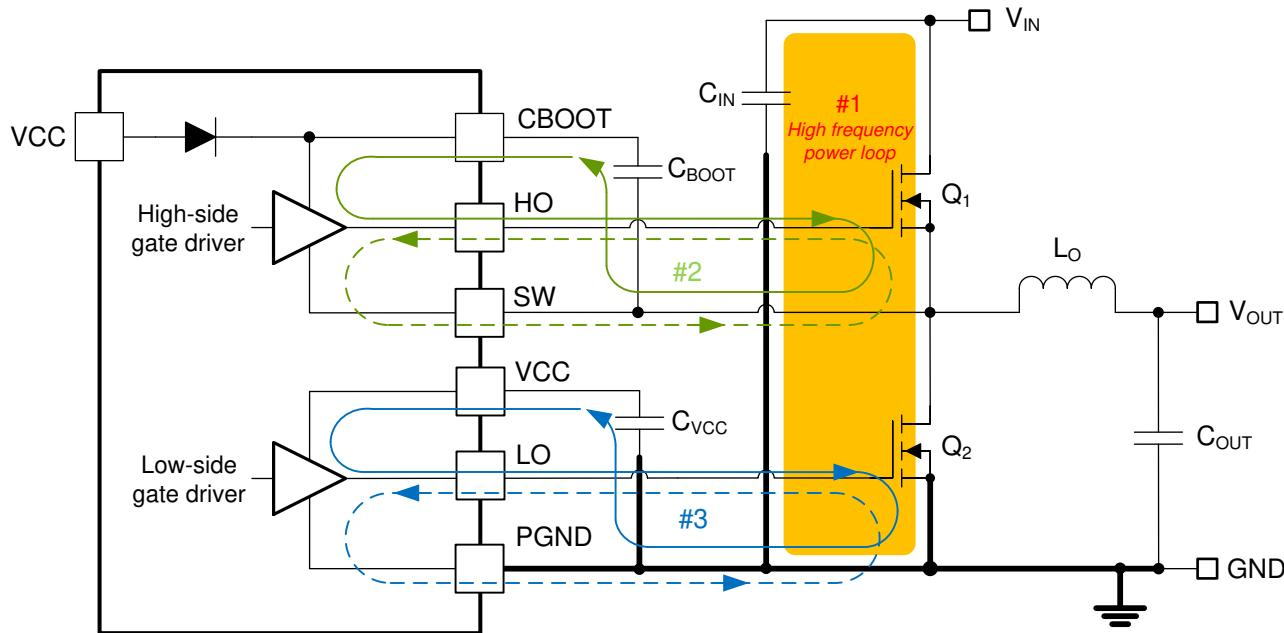

Figure 9-35. DC/DC Regulator Ground System With Power Stage and Gate Drive Circuit Switching Loops
Proper PCB design and layout is important in a high-current, fast-switching circuit (with high current and voltage slew rates) to achieve a robust and reliable design. As expected, certain issues must be considered before designing a PCB layout using the LM25148-Q1. The high-frequency power loop of a buck regulator power stage is denoted by loop 1 in the shaded area of Figure 9-35. The topological architecture of a buck regulator means that particularly high di/dt current flows in the components of loop 1, and reducing the parasitic inductance of this loop by minimizing the effective loop area becomes mandatory. Also important are the gate drive loops of the high-side and low-side MOSFETs, denoted by 2 and 3, respectively, in Figure 9-35.
- Loop 1: The most important loop area to minimize is the path from the input capacitor or capacitors through the high- and low-side MOSFETs, and back to the capacitor or capacitors through the ground connection. Connect the input capacitor or capacitors negative terminal close to the source of the low-side MOSFET (at ground). Similarly, connect the input capacitor or capacitors positive terminal close to the drain of the high-side MOSFET (at VIN). Refer to loop 1 of Figure 9-35.
- The SW pin connects to the switch node of the power conversion stage and acts as the return path for the high-side gate driver. The parasitic inductance inherent to loop 1 in Figure 9-35 and the output capacitance (C_{oss}) of both power MOSFETs form a resonant circuit that induces high frequency (greater than 50 MHz) ringing at the SW node. The voltage peak of this ringing, if not controlled, can be significantly higher than the input voltage. Make sure that the peak ringing amplitude does not exceed the absolute maximum rating limit for the SW pin. In many cases, a series resistor and capacitor snubber network connected from the SW node to GND damps the ringing and decreases the peak amplitude. Provide provisions for snubber network
- Loop 2: high-side MOSFET, Q_1 . During the high-side MOSFET turn-on, high current flows from the bootstrap (boot) capacitor through the gate driver and high-side MOSFET, and back to the negative terminal of the boot capacitor through the SW connection. Conversely, to turn off the high-side MOSFET, high current flows from the gate of the high-side MOSFET through the gate driver and SW, and back to the source of the high-side MOSFET through the SW trace. Refer to loop 2 of Figure 9-35.
- Loop 3: low-side MOSFET, Q_2 . During the low-side MOSFET turn-on, high current flows from the VCC decoupling capacitor through the gate driver and low-side MOSFET, and back to the negative terminal of the capacitor through ground. Conversely, to turn off the low-side MOSFET, high current flows from the gate of the low-side MOSFET through the gate driver and GND, and back to the source of the low-side MOSFET through ground. Refer to loop 3 of Figure 9-35.